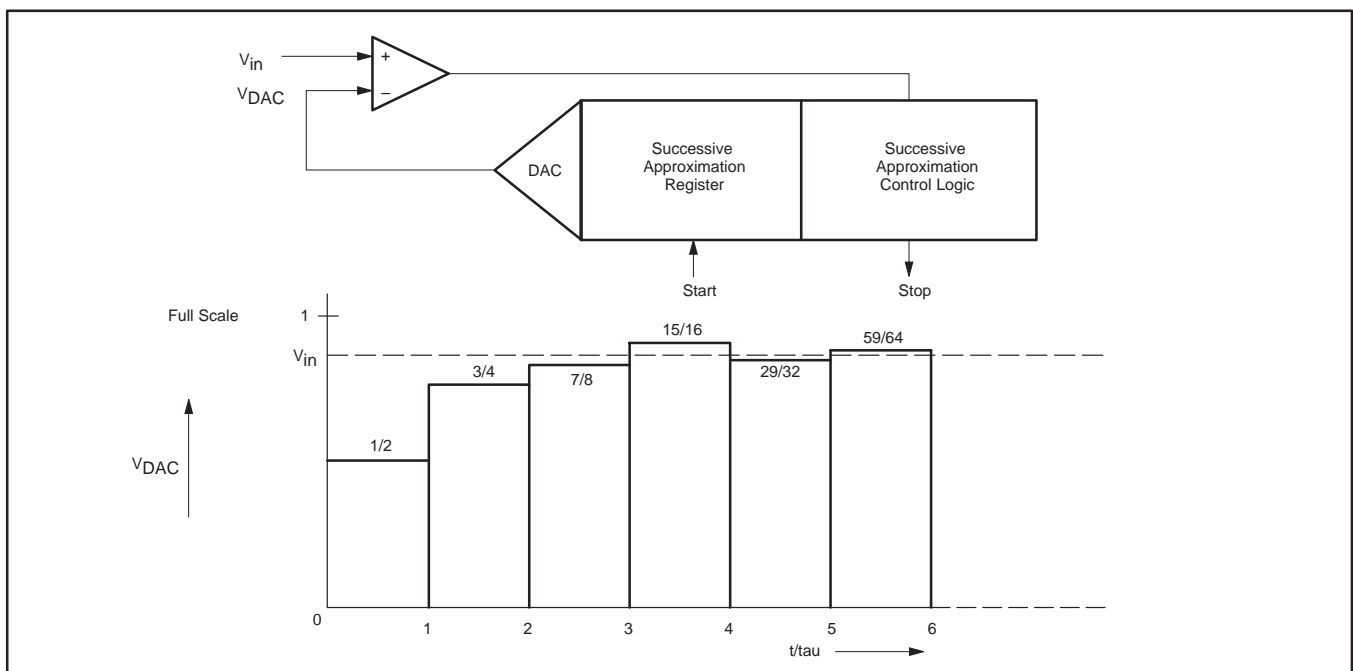

Figure 35. Successive Approximation ADC
**Analog-to-Digital Conversion:** Figure 35 shows the elements of a successive approximation (SA) ADC. The ADC contains a DAC which converts the contents of a successive approximation register to a voltage (VDAC) which is compared to the analog input voltage (Vin). The output of the comparator is fed to the successive approximation control logic which controls the successive approximation register. A conversion is initiated by setting ADSC in the ADCON register. ADSC can be set by software only or by either hardware or software.